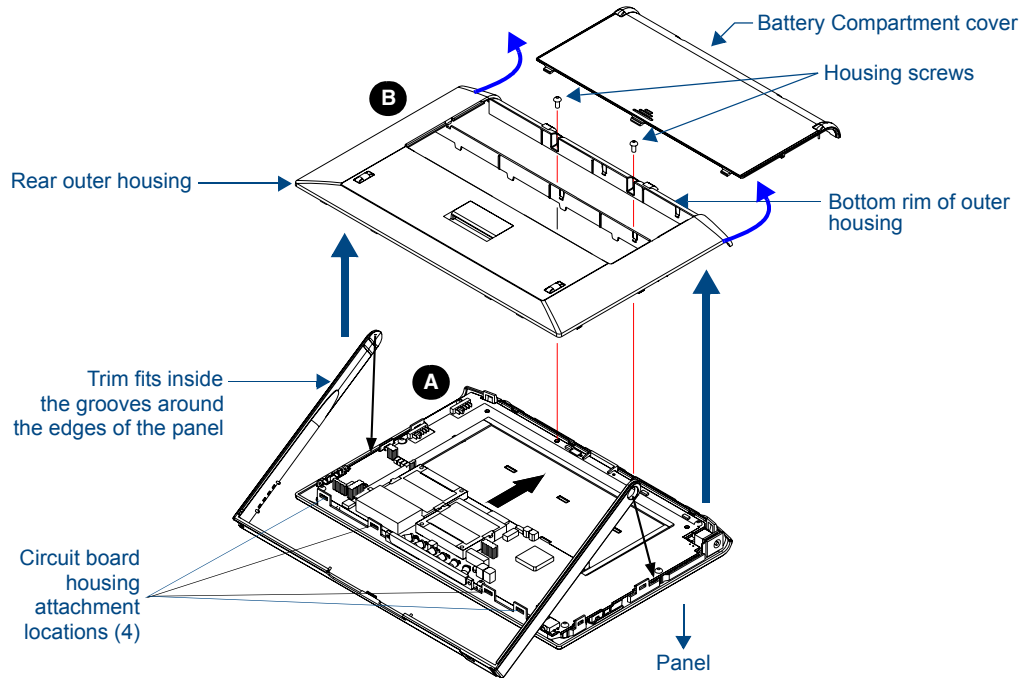

FIG. 5 Removing the MVP enclosure (housing)
2. Remove the two housing screws (FIG. 5).
4. Remove the trim from the top rim of the circuit board (FIG. 5).